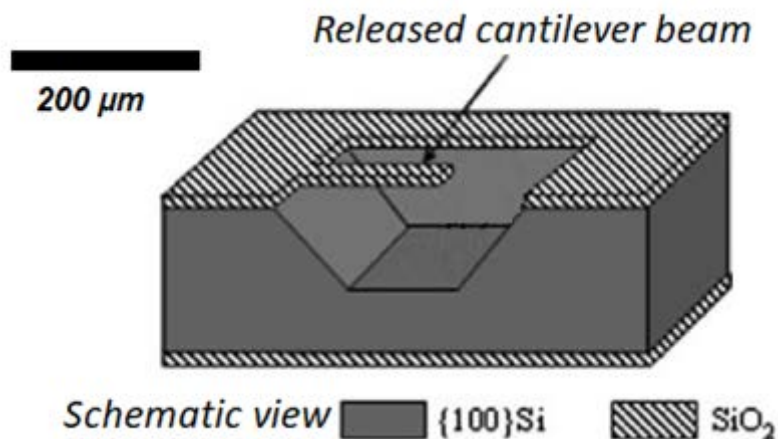

Figure 5[c]
- [c] Figure 5[c] shows a suspended cantilever structure on top an n-type Si substrate. The structure was constructed by surface micromachining. Describe the prior steps before this structure is produced using sketches.